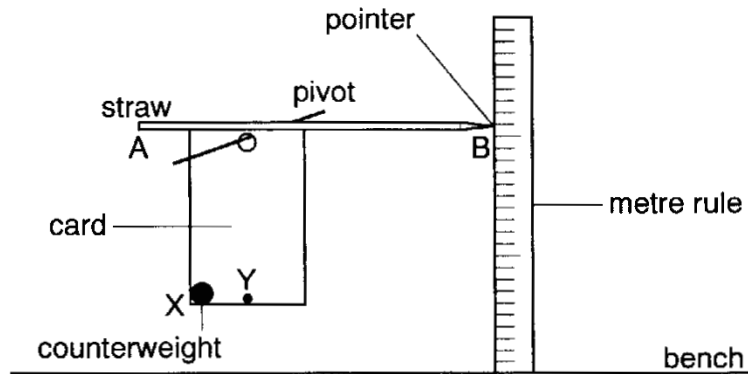
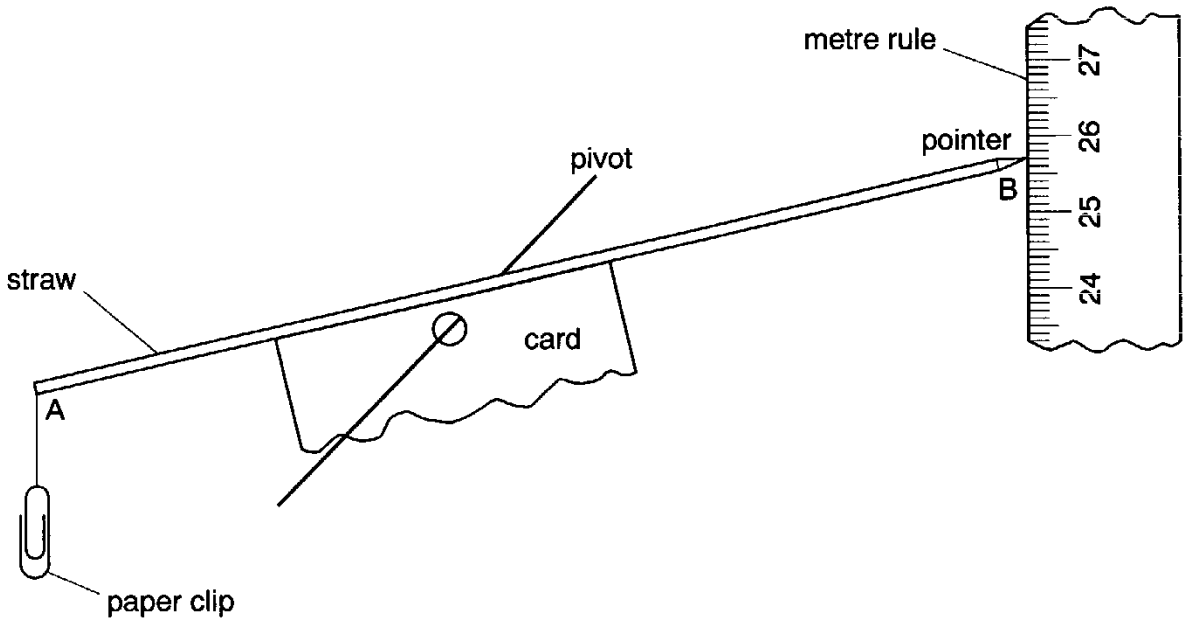

Fig. 5
Fig. 6
The lever balance shown in Fig. 5 was constructed from a straw AB fitted with a pointer at one end and a piece of card. The balance was supported on a pivot and the straw set horizontal by adjusting the position of a small counterweight. The height of the pointer was measured by using a metre rule placed beside the apparatus.
- (a) Describe how you would check that the metre rule was perpendicular to the bench. You may draw on Fig. 5 .
- (c) With the straw horizontal, as shown in Fig. 5, a small paper clip was attached to the end A of the straw. The balance came to rest as shown in Fig. 6. Write down the reading shown for the height of the pointer B.